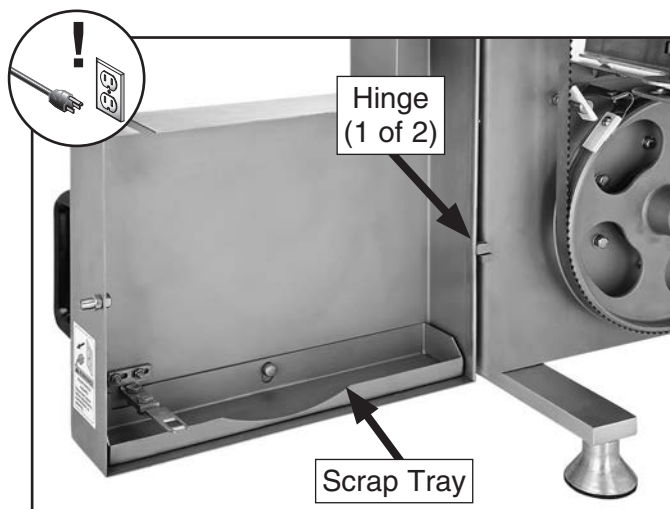

Figure 11. Wheel cover hinge and scrap tray identification.
5. Remove scrap tray from wheel cover (see **Figure 11**), then lift wheel cover off hinges.